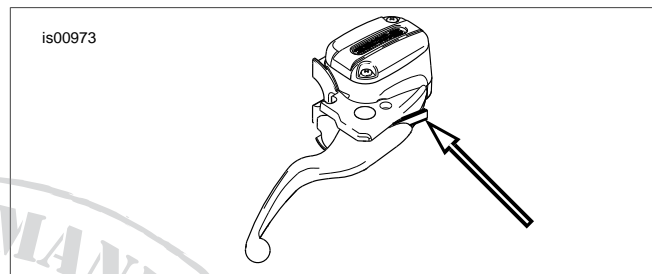
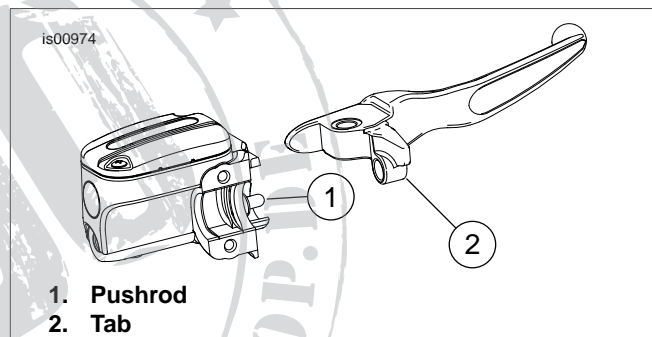
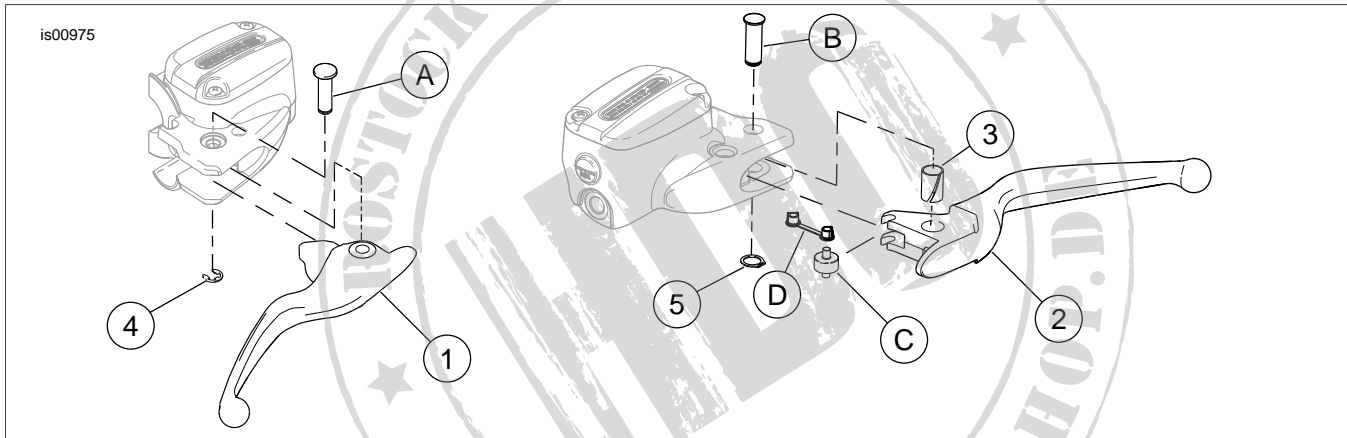

Figure 1. Cardboard Insert - 4 mm (5/32 in.)
Figure 2. Master Cylinder Pushrod and Lever Tab
Figure 3. Service Parts for Hand Control Lever Kits
See Figure 3 and Table 1.
1. See Figure 3. Remove the retaining ring (4) from the groove in the pivot pin (A).
2. See Figure 1. Place a 4 mm (5/32 inch) cardboard insert between the brake lever and lever bracket.
3. See Figure 3. Loosen brake master cylinder clamp screws. Rotate master cylinder assembly slightly forward and then slide toward the center of the handlebar.
4. Remove pivot pin (A) and original equipment brake lever. Retain pivot pin for reuse.
5. See Figure 2. Slip the new brake lever into position and align the pivot pin holes. Ensure the pushrod (1) in the
6. See Figure 3. Install pivot pin (A) removed in Step 2, and retaining ring (4) from kit. Replace cardboard insert shown in Figure 1.
2. See Figure 3. Remove pivot pin (B) through the top of the housing. Save pivot pin for installing the new clutch lever.
3. Slide bushing cups (D) onto the pins of the roller (C) with cup flanges against the roller.
4. With the connector bow portion of the bushing cups (D) parallel with the groove in the clutch handle, snap the roller pin with the bushing cups installed into clutch lever roller